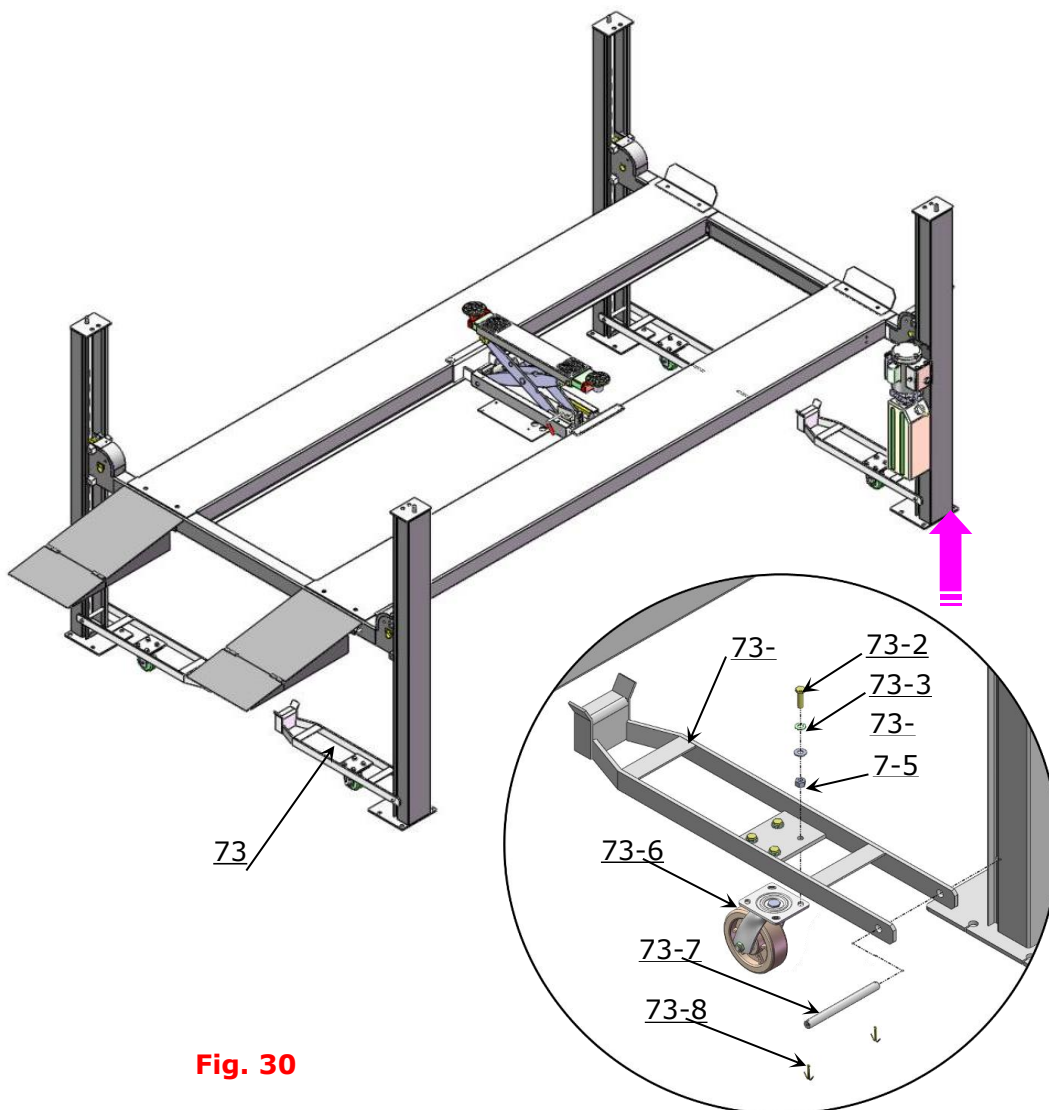

Fig. 30
N. Install drive-in ramp, jack tray and plastic oil tray (See Fig. 30).
1. Install caster kits or Rolling jack (See Fig. 30)